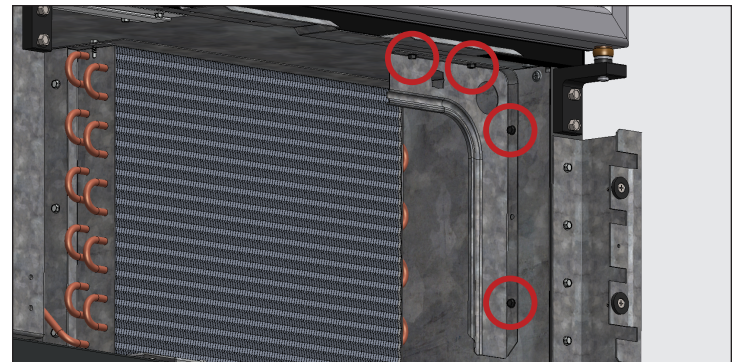

Fig. 6. Cabinet support bracket screw locations.
6. Remove the cabinet support bracket. See fig. 6.